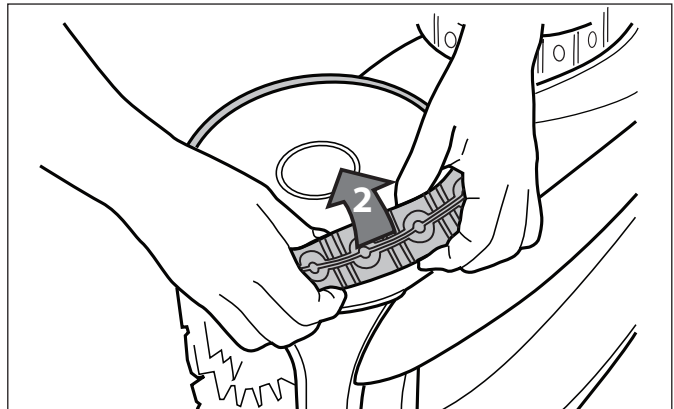

Figure 32. Remove the Old Tire
- Remove the old tire (Figure 32).